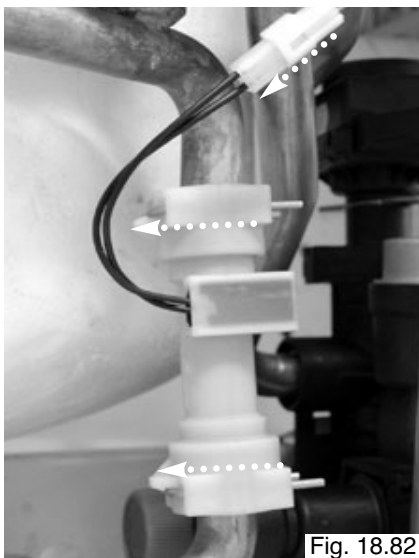

Fig. 18.82
2. Remove electrical connection and the two clips fixing the flow switch (see Fig. 18.82);